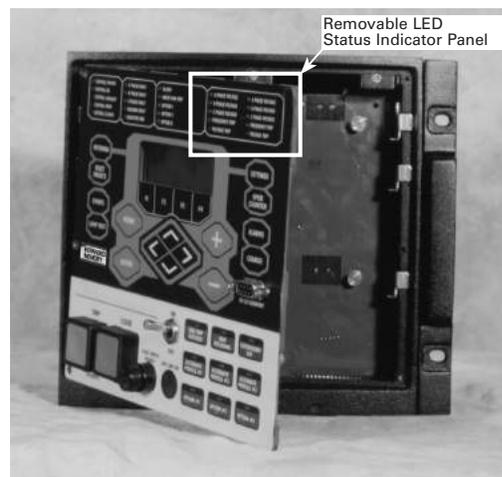
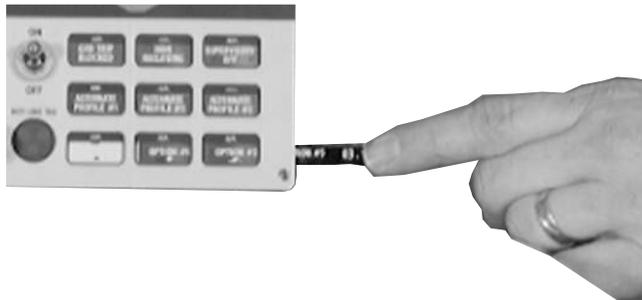

Figure 22. Open front panel. Labels are easily removed from and inserted into the top of the programming panel LED status indicator section
Figure 23. Labels are easily removed from and inserted into the operating panel
3. Pull the right side of the front panel out towards the left (**Figure 22**).
Note: The insert will slide out of the right side of the operating panel (**Figure 23**).
Note: The insert will slide out of the top of the programming panel indicator section (**Figure 22**).
- Gently push the removable insert from right to left into the right side of the operating panel (**Figure 23**) or down into the programming panel LED indicator section (**Figure 22**).